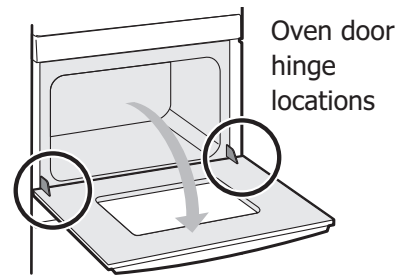

Figure 8: Location of hinges
1. Open oven door completely, horizontal with floor (Figure 8).
3. Fully open the oven door, horizontal with floor (Figure 8).